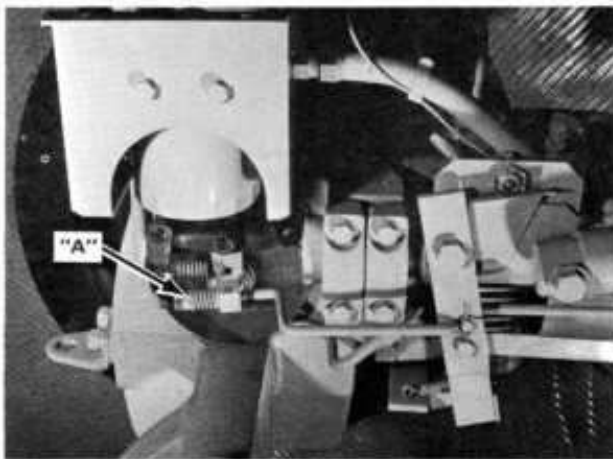

Figure 18
2. Turn hex lock nut "A", Figure 18 clockwise to tighten until 15 to 25 pounds pressure on the foot pedal is required to latch the parking lock.